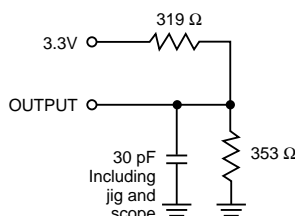

Figure 1.
1. Test conditions assume signal transition times of 3 ns or less, timing reference levels of 1.5V, input pulse levels of 0 to 3.0V and output loading specified in Figure 1.
| Output Load                                 | See Figures 1 and 2 |